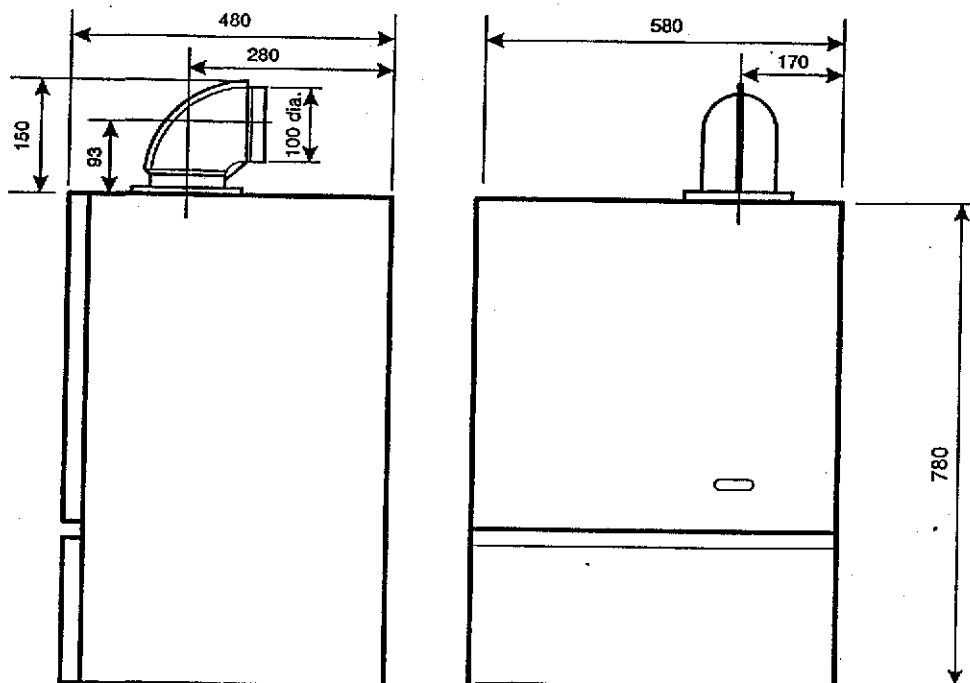

Fig. 3
2.10 BOILER DIMENSIONS (See Fig. 3)